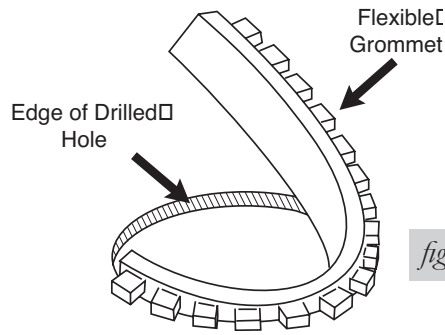

fig. 15
- Insert the flexible grommet material (J) and walk the material around the inside edge of the hole (Fig. 15).